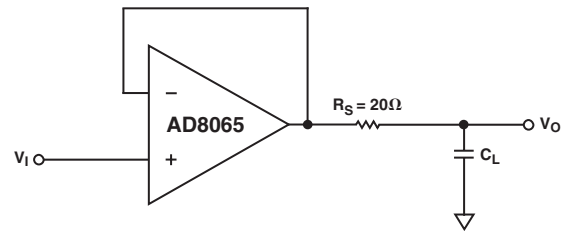

Figure 7. Output Isolation Resistor
- 1) As shown in Figure 7, put a small value resistor (R_S) in series with the output to isolate the load capacitor from the amp's output stage. A good value to choose is $20\text{ }\Omega$ (see TPC 7).